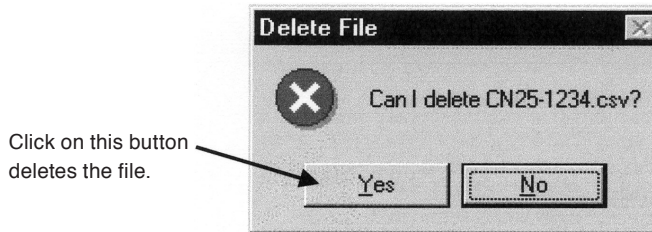

Fig.124
- ① Click on "File (F)" at the top-level menu of the screen, select "Database (F)", select "Delete File (X) Ctrl+X," and click on agin.
- ② Select the disk and folder that contains the file you want to remove from the drop-down list.
- ③ Select the file you want to remove by clicking. Acknowledge "File name" and click on "Open" button.
- ④ In response to the clicking, the file you selected opens and a message box as shown in Fig. 124 appears. Click on "Yes" button if you want to delete, or "No" if you do not want. Clicking on "Yes" deletes that file.